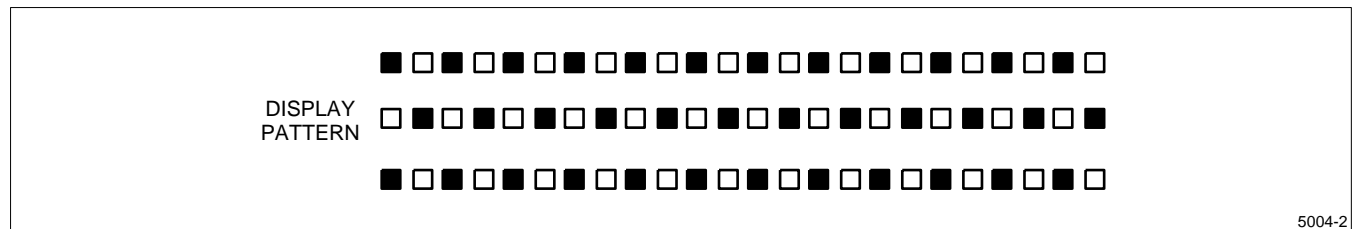

Figure 3. Display High Frequency Pattern
3. Display high frequency pattern: $V_{DD} = 5\text{ V}$, $V_{EE} - V_{SS} = -17.6\text{ V}$, frame frequency = 85 Hz, display pattern = 1-bit checker (Figure 3).